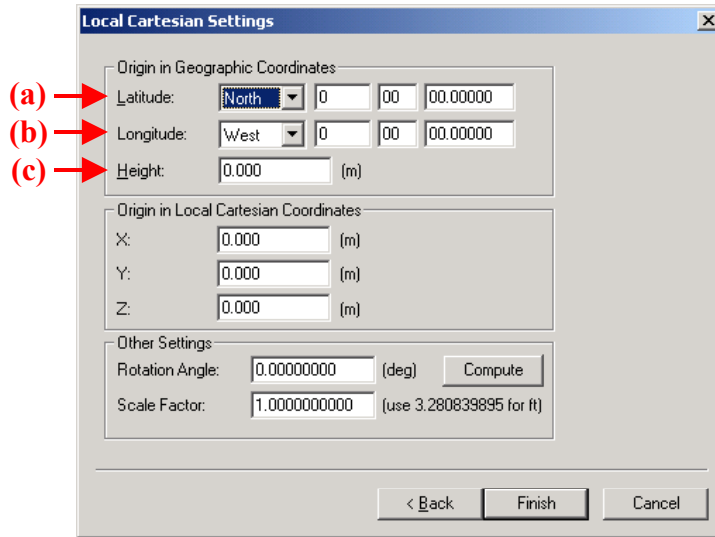

Figure 10.11 Local Cartesian Settings
- 4) You will then come to the 'Transverse Cartesian Settings' dialogue box (Figure 10.11).